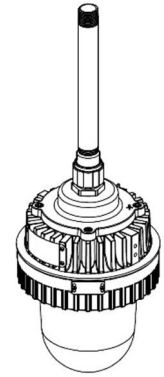

Figure 7
- ☞ Tighten tube locking set screw to conduit, 1.0 N-m. (Figure 7)